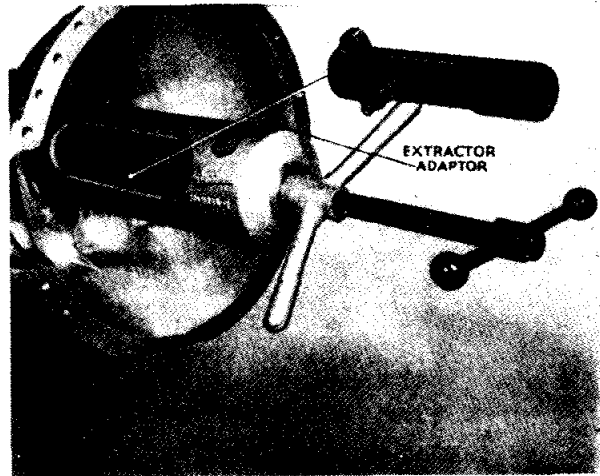

Fig. 9 Extracting Constant Pinion Shaft Assembly with Churchill Tool No. 20SM66A.
- (k) Extract the constant pinion shaft assembly as shown in Fig. 9, and remove